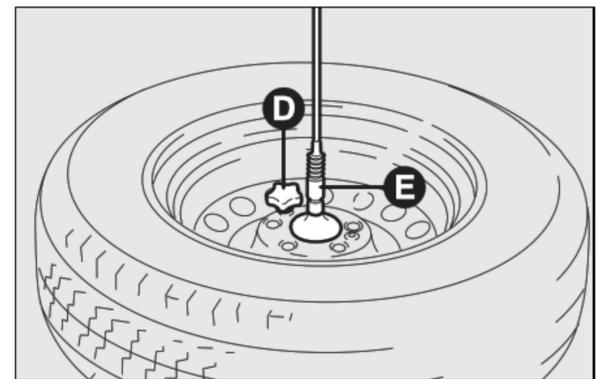

fig. 7
- take the flat tyre, hook it to support **E-fig. 7** and screw knob **D-fig. 7**;